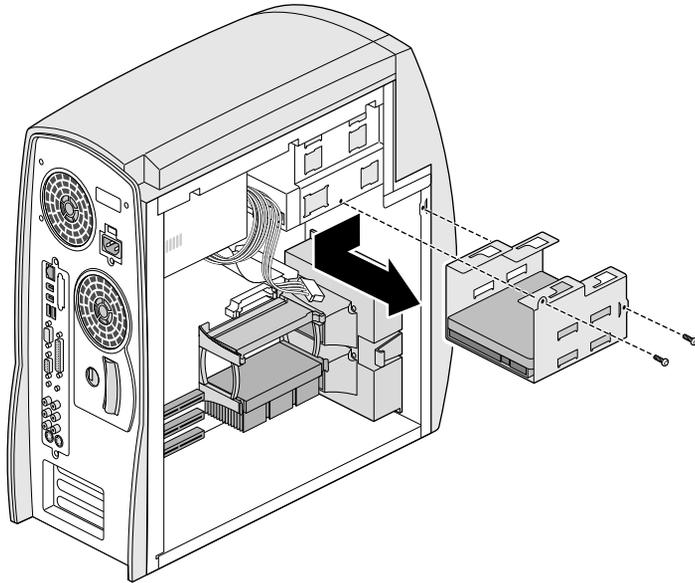

Figure 4-11 Removing the Internal Hard Drive Bracket
5. Remove the drive bracket from the system, as shown in Figure 4-11.